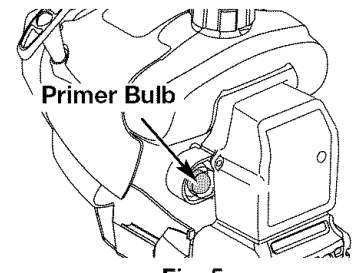

Fig. 5
3. Fully press and release the primer bulb 10 times, slowly. Some amount of fuel should be visible in the primer bulb and fuel lines (Fig. 5). If you can't see fuel in the bulb, press and release the bulb as many times as it takes until you can see fuel in it.